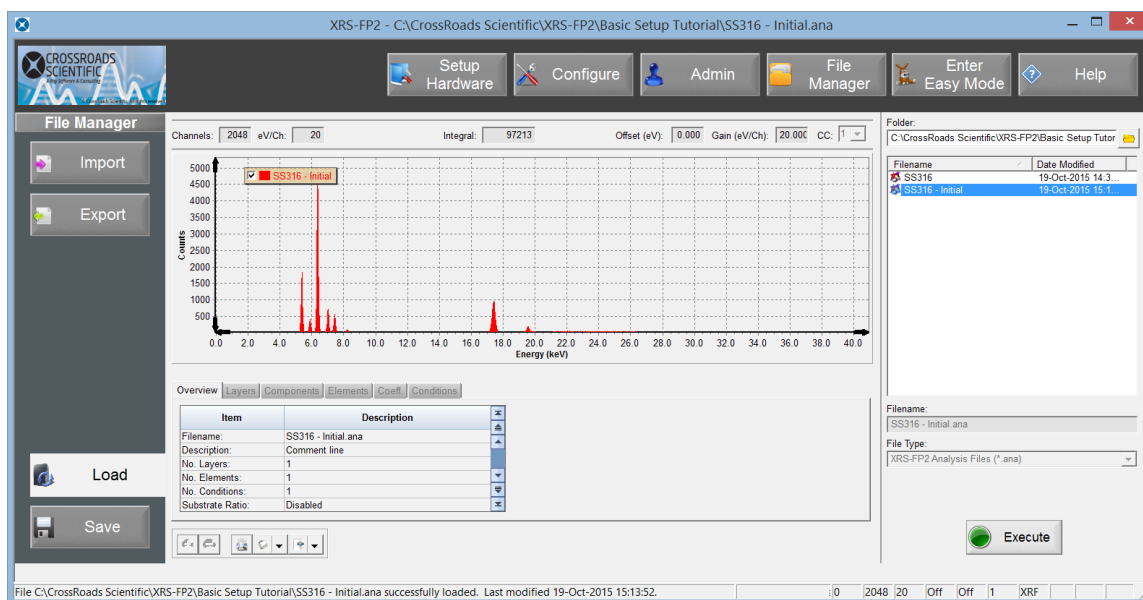

Figure 4. File Manager. Open the stainless steel SS316 Initial ANA file, e.g. “SS316 - Initial.ana”.
3. Select the **File Manager** button from the top ribbon. Then select the **Load** button and locate the “SS316 - Initial.ana” file in the “C:\CrossRoads Scientific\XRS-FP2\Basic Setup Tutorial” directory (or equivalent location). Select the “SS316 - Initial.ana” file in the right-hand panel of XRS-FP2 and either double click or use the **Execute** button to load the file. See figure 4 below.